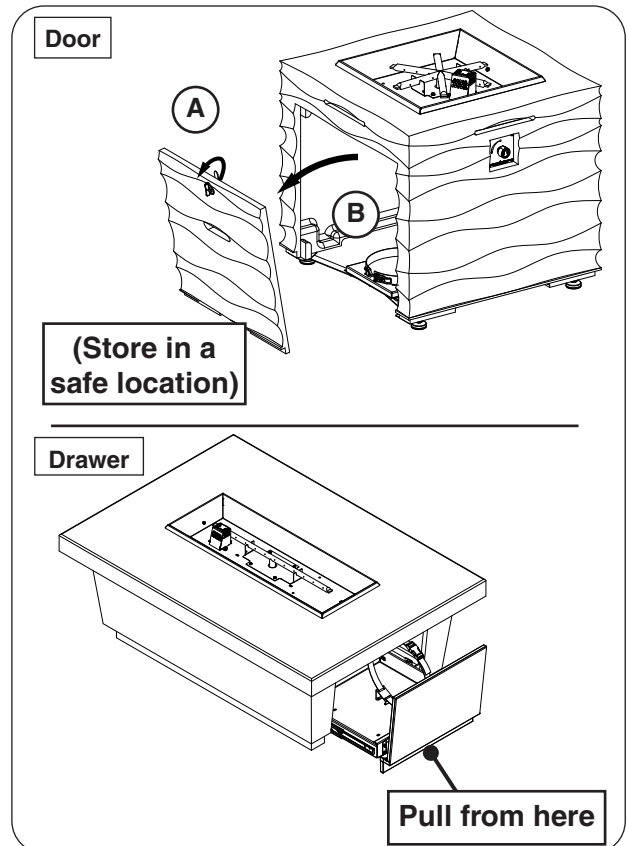

Fig. 26-2 Remove or open door/drawer (if applicable)
2. Remove/open the storage door/drawer. See below and Fig. 26-2.